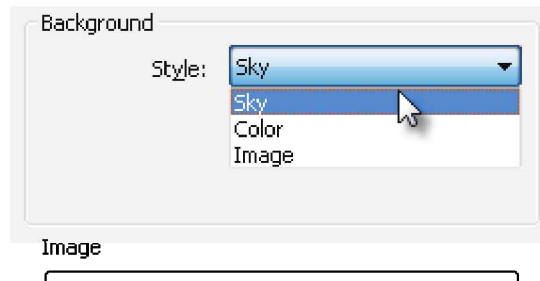

FIGURE 13-2.14 Background style
29. Click the down-arrow next to *Style* in the *Background* area (Figure 13-2.14).
36. In the Level 1 plan view, select the tree that is shown smaller in **Figure 13-2.14**.